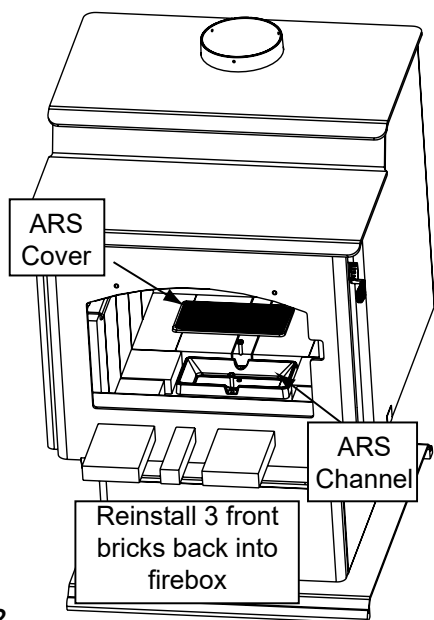

Figure 20.2
1. Replace front bricks that were removed in step 1 of **Begin installing the ARS System** on page 18 (**Figure 20.2 on page 20**).
3. Install ARS access cover inside of ARS Channel that is located inside the firebox (**Figure 20.2 on page 20**).